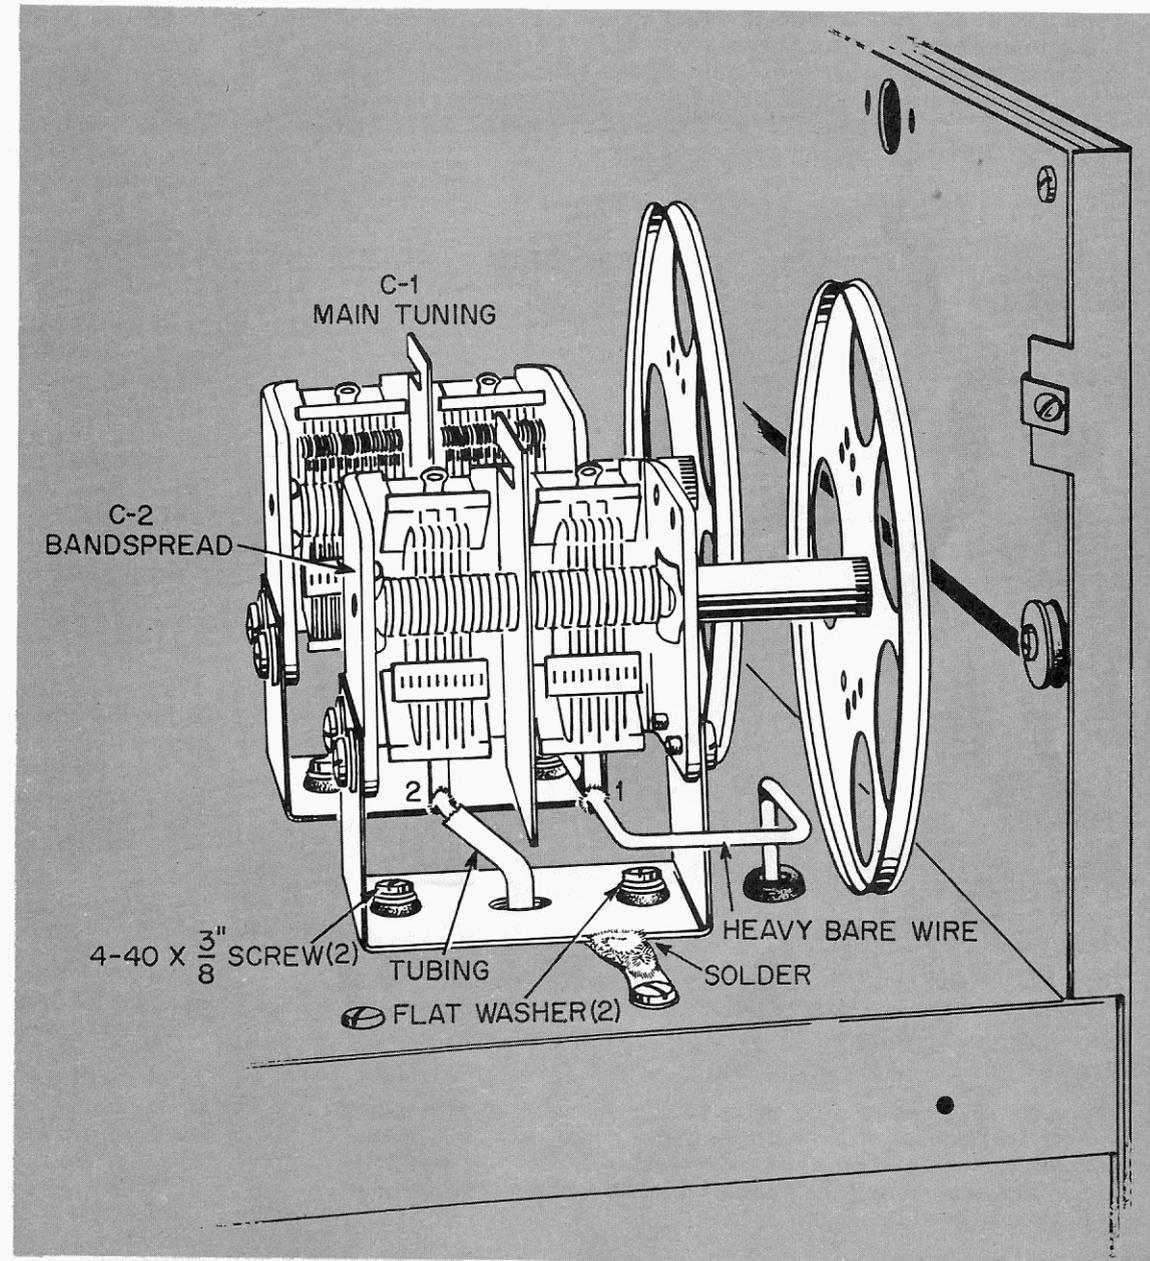

FIGURE 16
- C-1 assembly (variable capacitor with **largest number of plates** and shortest shaft). Mount to the chassis as shown in Figure 16. Fasten with two 4-40 x  $\frac{3}{8}$ " screws, two flat metal washers, two lockwashers and two nuts. Place the flat washers over the screws. Insert the screws through the grommets in the bracket. Loosely fasten to the chassis with a lockwasher and nut. Position the braided shield so it crosses the large hole in the center of the bracket. Tighten the mounting nuts. Do not overtighten.
## SEE FIGURE 16.